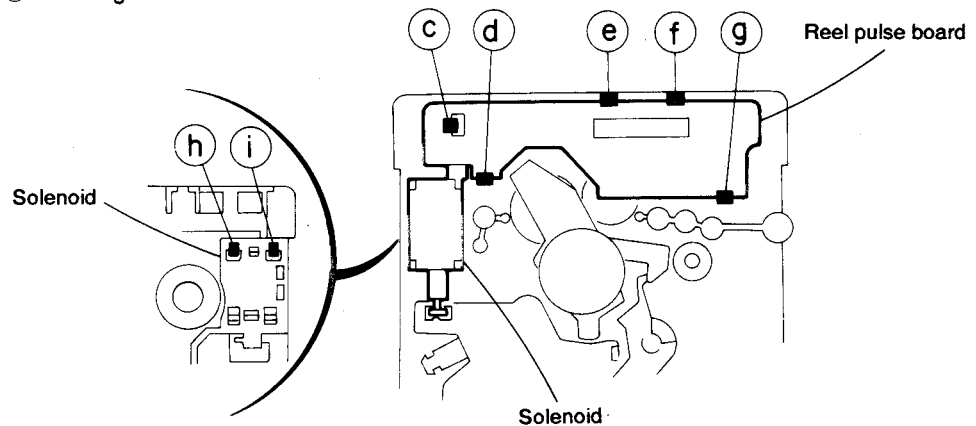

Fig.5-34
■ **Removing the Reel Pulse P.C. Board and Solenoid** (See Figs. 5-34)